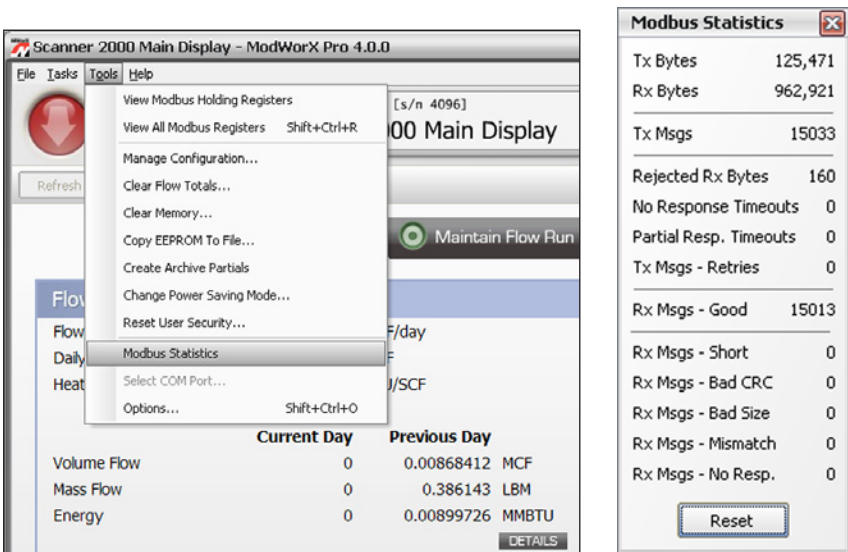

Figure A.28
3. In the Directory Settings portion of the screen (Figure A.28, page A-26), select the subdirectory storage path(s) to which you want the file saved. The file will be saved in the order the subdirectories are selected.
The Modbus Statistics selection in the Tools menu allows users to view a concise report of Modbus send and receive attempts, which may be useful in diagnosing a communications problem. An example of a Modbus statistics report is shown in Figure A.28, page A-26.